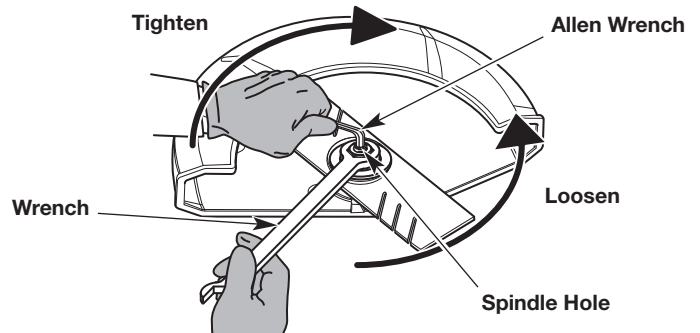

Fig. 13
1. Place a 15/16 in. wrench over the lock nut (Fig. 13).
2. Insert a 5/16 in. Allen wrench into the spindle hole (Fig. 13).
3. While holding the Allen wrench in place, loosen the lock nut by turning it counterclockwise with the wrench (Fig. 13).
2. Place the wrench over the lock nut (Fig. 13).
3. Insert the Allen wrench into the spindle hole (Fig. 13).
4. While holding the Allen wrench in place, tighten the lock nut by turning it clockwise with the wrench (Fig. 13). Make sure that the edger blade stays flat and centered against the output shaft while tightening the lock nut. Tighten the lock nut until the edger blade is firmly secure.